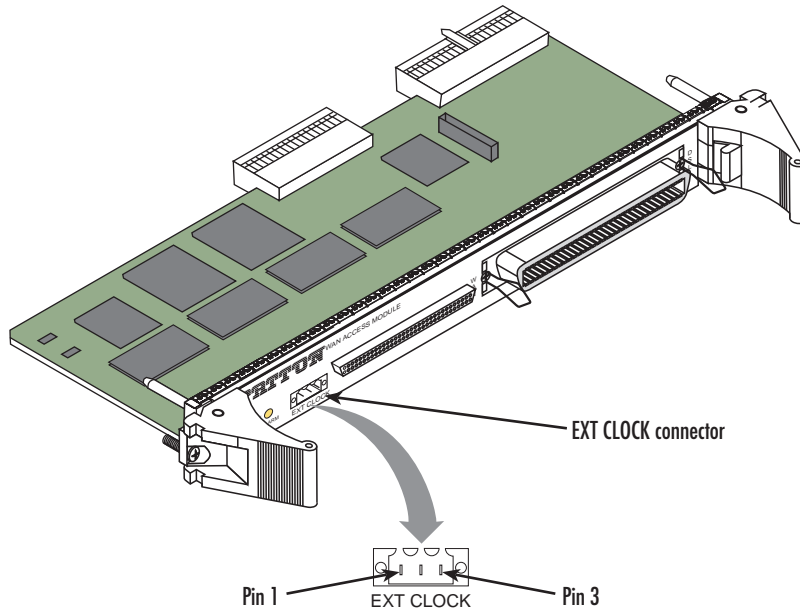

Figure 12. EXT CLOCK connector location
Note To synchronize the ForeFront system with a BITS clock, you must connect the site BITS clock system to the *EXT CLOCK* connector located on the rear-panel of the T-DAC WAN Access Module rear card (see figure 12).
1. The *EXT CLOCK* connector is a 3-pin terminal block connector (see figure 12). As you face the rear-panel, pin 1 is located at the top (vertical card orientation) or left (horizontal card orientation). Table 6 lists the connector pinout.